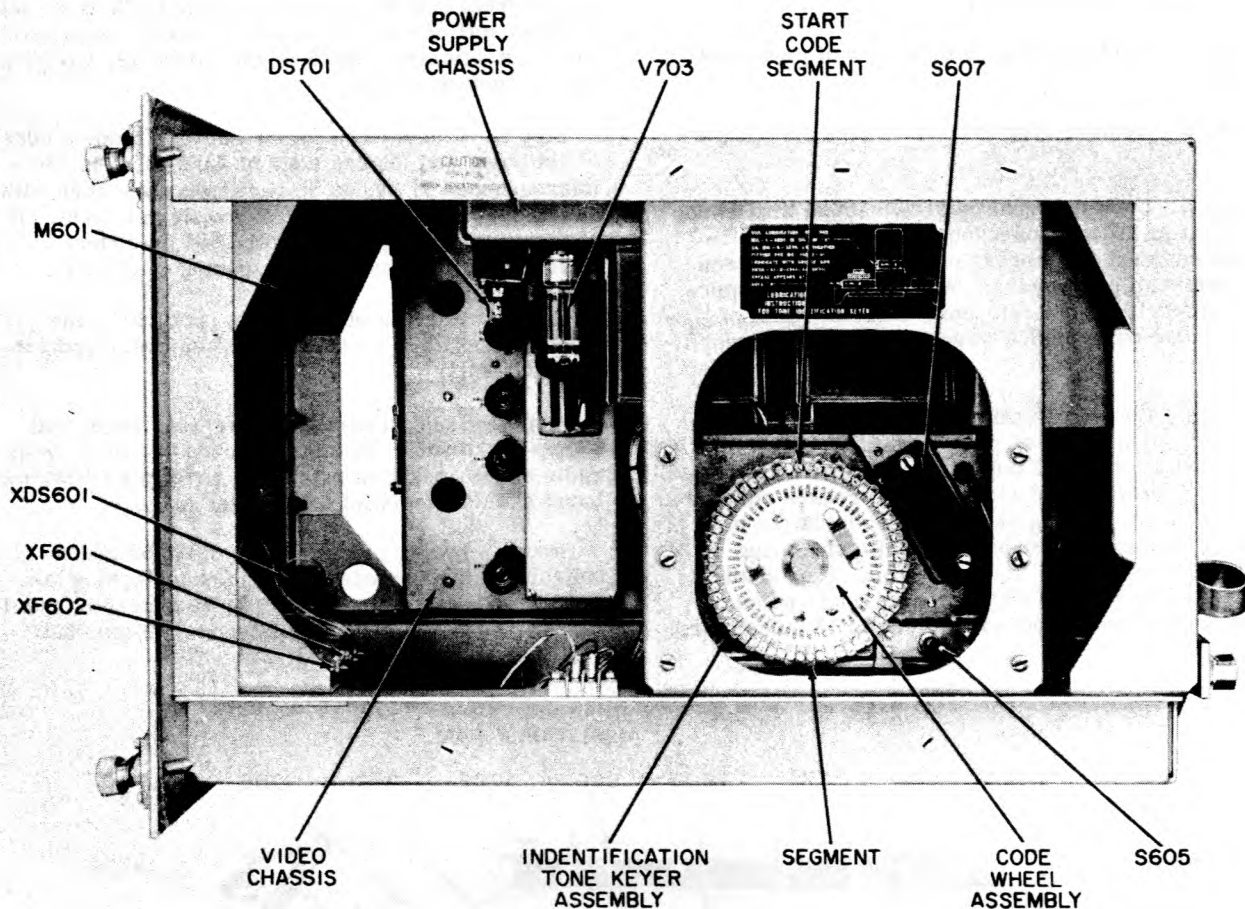

Figure 6-7. Coder-Indicator KY-382/GRN-9D, Right Side View
Step 1. Open coder-indicator drawer to gain access to identification tone keyer assembly, mounted on right side of unit (figure 6-7). Operate interlocks to energize coder-indicator unit.
Step 5. Remove two captive screws, flat washers, and lockwashers that secure switch S607 cover (figure 6-7) to housing. Remove cover.
Step 6. Rotate code wheel assembly until code just starts at START CODE segment (figure 6-7).